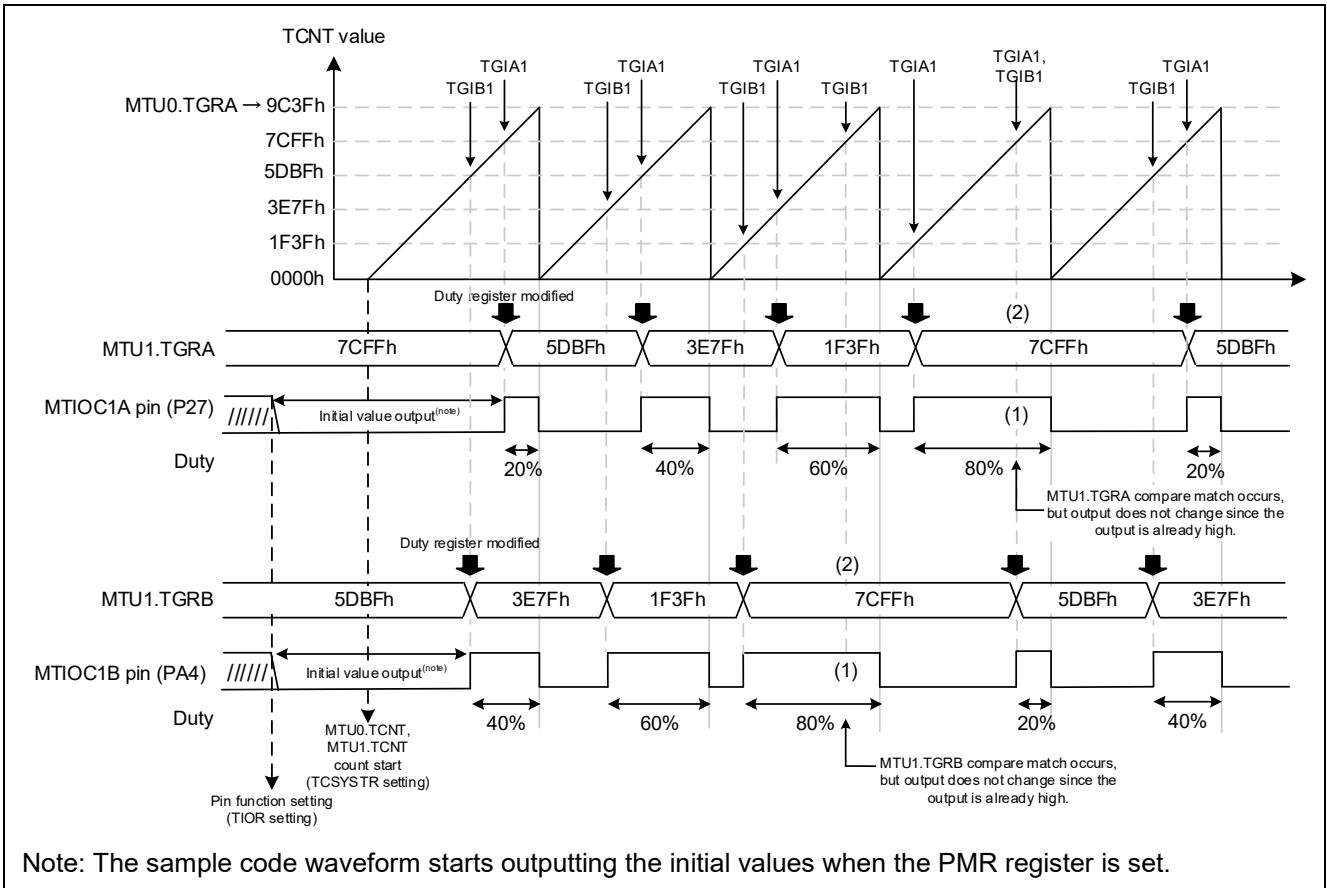

Figure 3.37 Sample Code Operation
- Refer to Figure 3.37 for details on timing for duty cycle changes
The sample code operations are shown in Figure 3.37. The settings of the duty cycle are changed with each period by modifying the value of duty register MTU1.TGRA at the MTU1.TGRA compare match interrupt (TGIA1) and duty register MTU1.TGRB at the MTU1.TGRB compare match interrupt (TGIB1)
For details, refer to (1) in Figure 3.37.